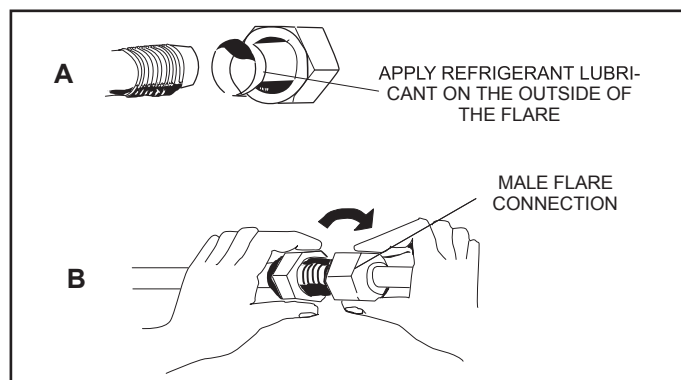

Figure 19. Making Connections (Male to Female Connection)
4. Apply recommended R-410A refrigerant lubricant to the outside of the flared refrigerant lines (Figure 19-A).
5. Align the threaded connections with the flared refrigerant lines. Tighten the flare nuts lightly at first to obtain a smooth match (Figure 19-B).